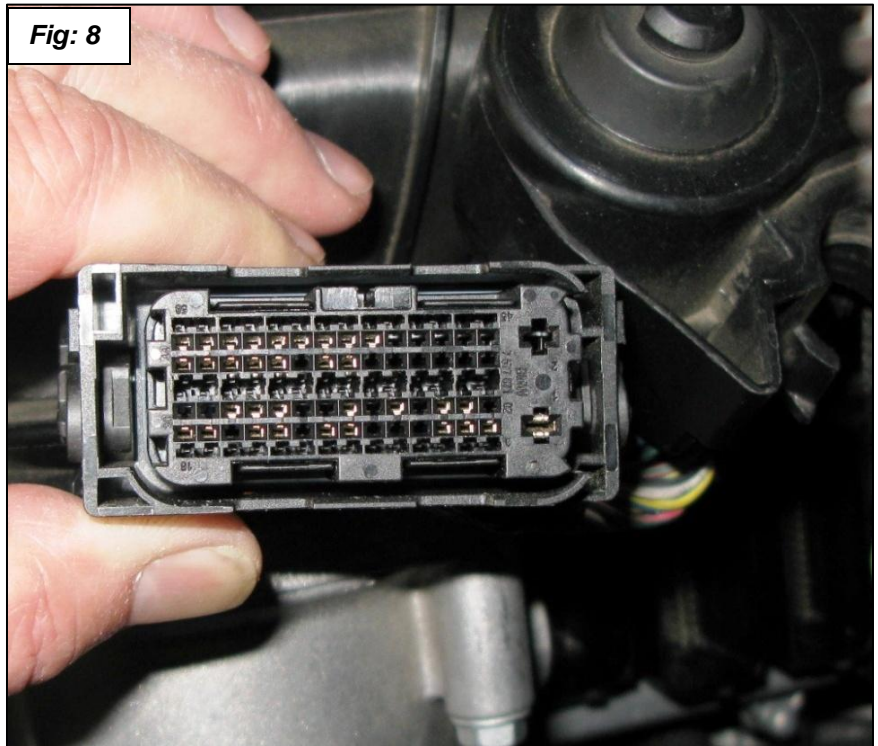

Fig: 8
8. The Orange Dot Interrupt section gets installed first. It goes between position (3B) on the ECU and the stock connector that has 4 rows of small connectors, two large connectors and is black in color. See figure 8.